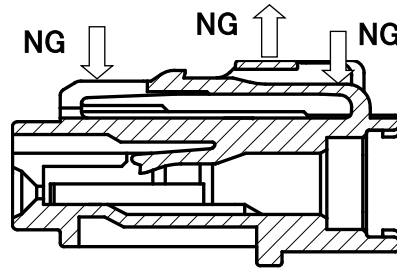

Fig.7: Lock Part of Housing, Direction in Which External Force Shall Not be Applied
- As for the lock part of the F housing, do not apply force in the arrow direction in Fig. 7.